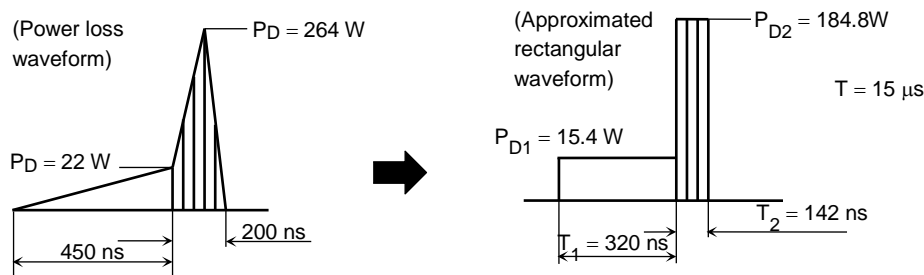

Figure 1.8 Approximated Rectangular Waveform
First, approximate the power loss^{*1} from the above waveform as a square wave and then use Equation (8) to calculate the channel temperature. Figure 1.8 shows the waveform for power loss and the square waveform approximated from it.